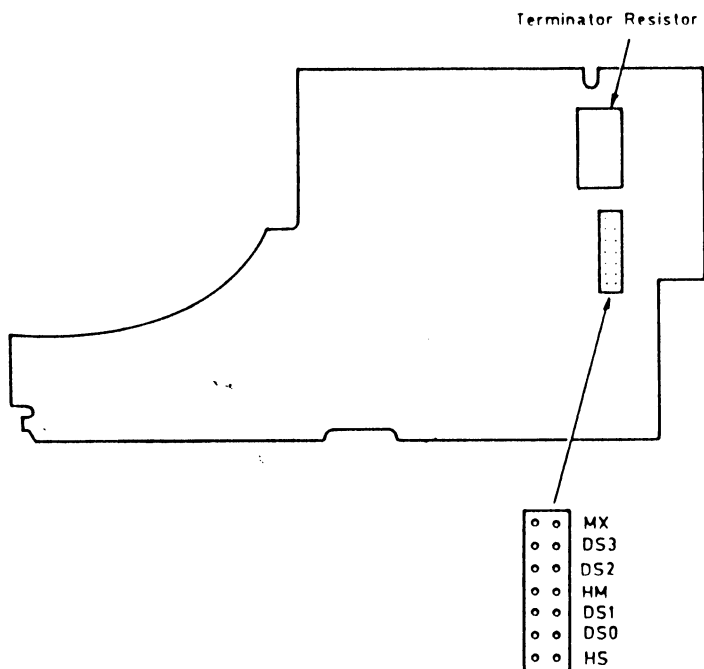

Figure 3.3 Strapping locations
2. Refer to Figure 3.3 and remove the terminator resistors from drive 1. Re-install the resistors in the same location in drive 0.